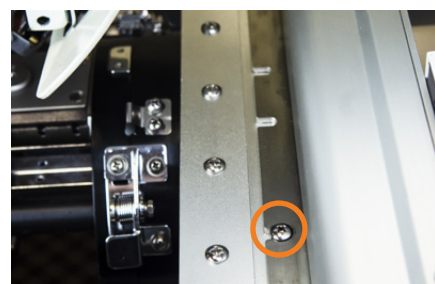

Figure 38
1. Using the Phillips screwdriver included in your toolkit, loosen the screws that connect the cap driver to the pantograph. **See Figure 38.**
See Figure 38.